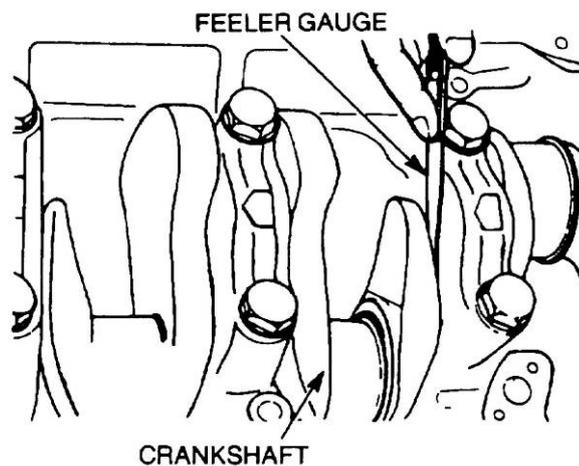

Figure 17 Checking the Crankshaft End-play
- jj. Using a feeler gauge, check the crankshaft end-play (Figure 17). The standard dimension is 0.15 to 0.45 mm (0.006 to 0.018 in).